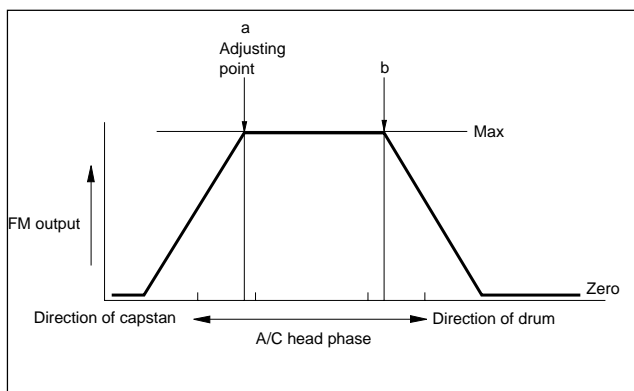

Fig. 2-4-8 Phase adjustment point of control head
3. Operate the tracking button in the center and manual tracking mode by pressing the tracking (+) and (-) buttons and confirm that the FM output level is maximum at the center position as shown in Fig. 2-4-8.
4. If necessary, slightly loosen the setscrews (D) and (E) and insert the Tweezers into the notch and guide hole to move the A/C head fully in the direction of the capstan to the extent.
5. Gradually move the A/C head toward the drum to find the position where the FM output level maximum for the first time (a' - b' in Fig. 2-4-8).
6. Fine adjust the phase of the A/C head and tighten the screws (D) and (E) at the point a.